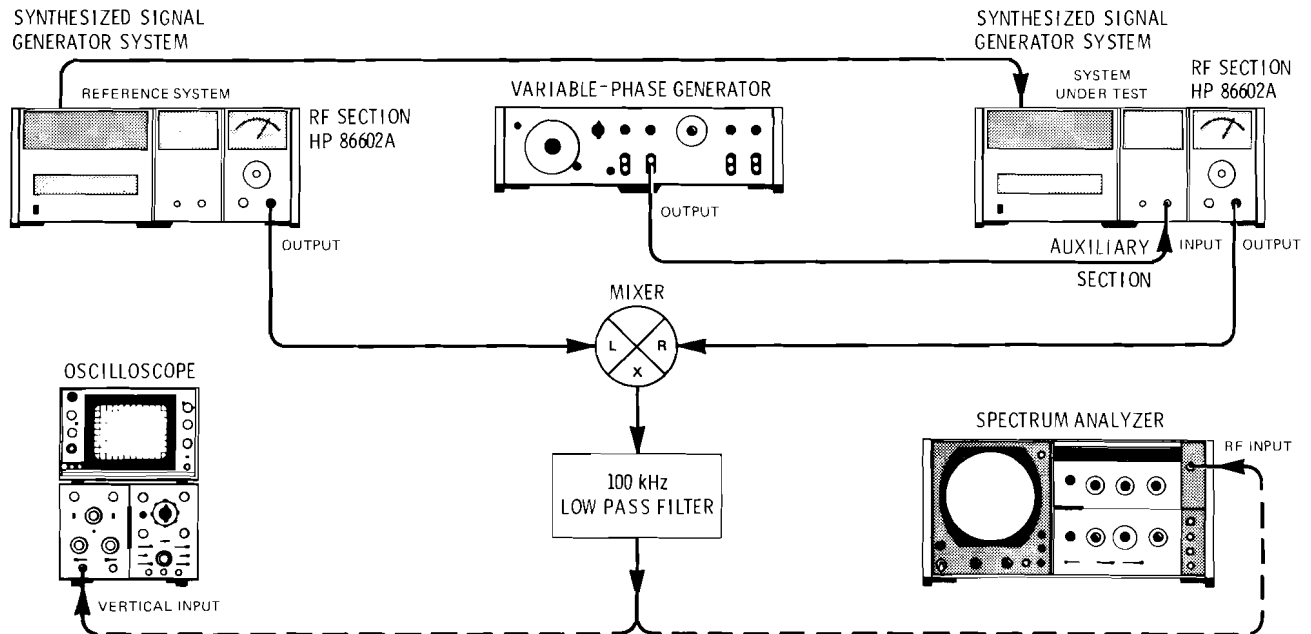

Figure 4-10. Amplitude Modulation Carrier Envelope Distortion Test Setup
1. Connect equipment as illustrated in Figure 4-10.